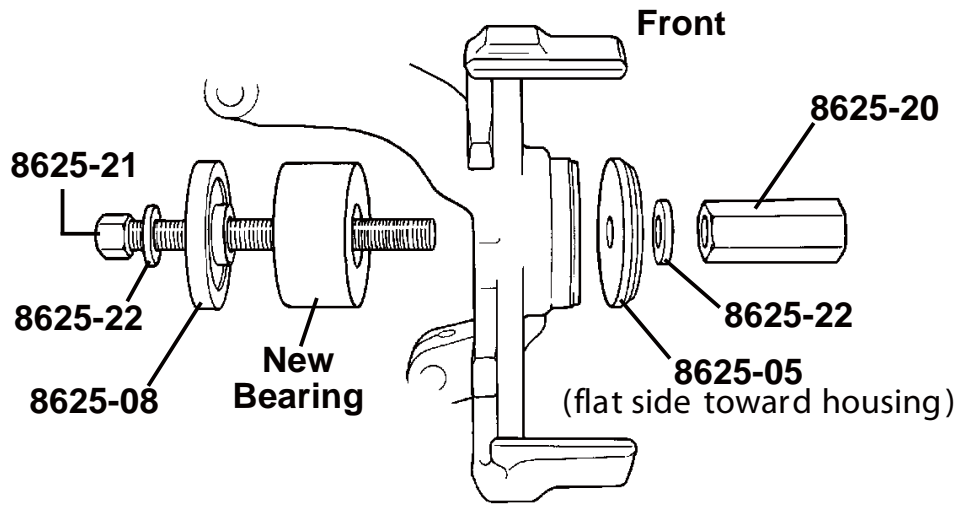

Figure 3
3. Lightly lubricate the new bearing, and position it for installation with the tool components assembled as shown in Figure 3.